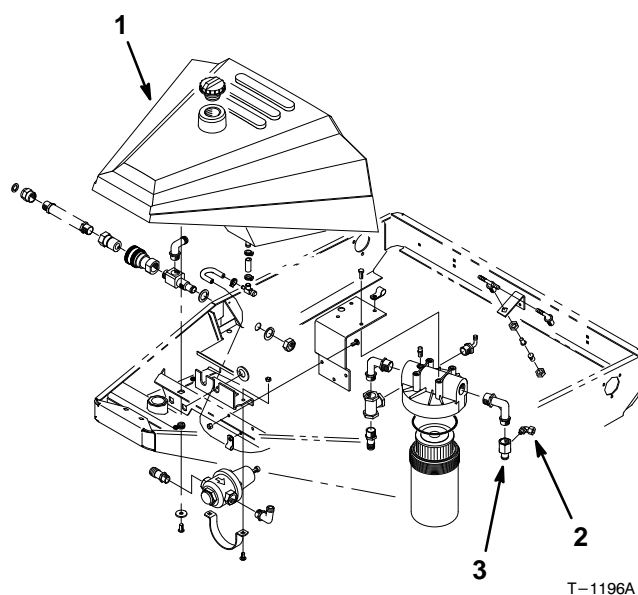

Figure 1
1. Remove the fuel tank from the HydroJect® 3000 Aerator (Fig. 1).
3. Remove the black pressure gauge hose from the 90-degree black plastic elbow fitting (Figs. 1 and 2).
4. Remove the 90-degree black plastic elbow fitting from the brass adapter fitting and discard (Fig. 1).
5. Remove the brass adapter fitting from the outlet side of the filter and discard (Fig. 1).